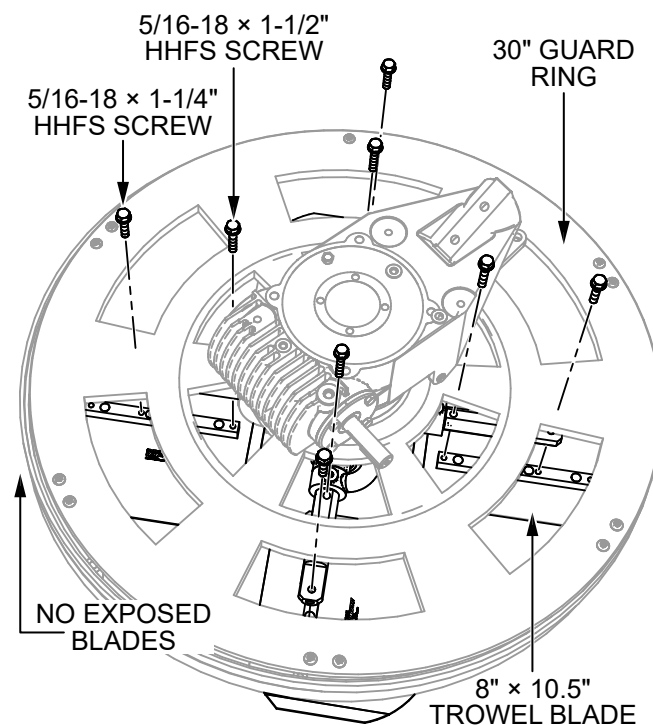

Figure 20. 10.5-Inch Trowel Blade Installation
- Secure four 8" × 10.5" trowel blades to the spider assembly (Figure 20) with the four 5/16-18 × 1-1/4" HHFS screws and four 5/16-18 × 1-1/2" HHFS screws that were removed in step #1.